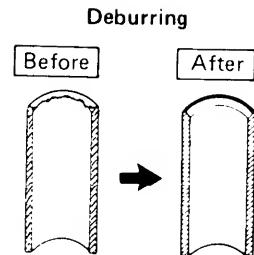

Fig. 20
- b) Remove burrs at the end of the copper tube with a reamer or a file. This process is important and should be done carefully to make a good flare. Fig. 20